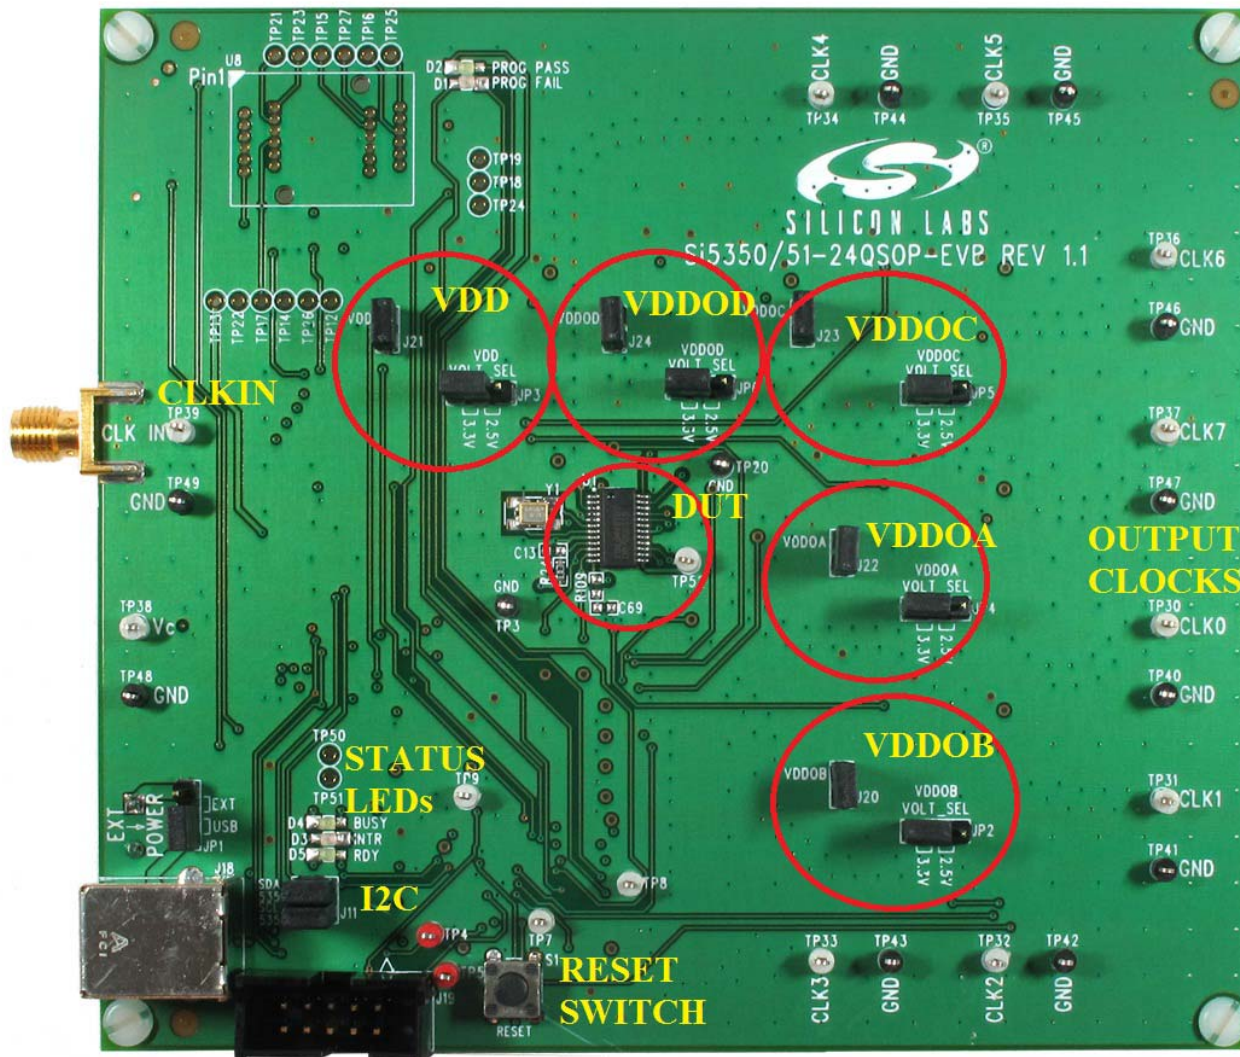

Figure 1. EVB Features
Figure 1 highlights the main features of the EVB. The onboard MCU is responsible for programming the Si535x timing IC, measuring the device's current consumption reported in ClockBuilder™ Desktop, managing power, and controlling status LEDs. VDD and VDDO jumpers allow the option to choose between 2.5 V and 3.3 V or to power the device with external supplies (see “2. Jumpers” for details). I²C jumpers allow the Si535x to be disconnected from the I²C bus to allow external control from another I²C master.
- **EXP POWER**—Allows user to select between 5 V USB supply and 5 V external supply on J17. See Figure 1 for jumper locations.